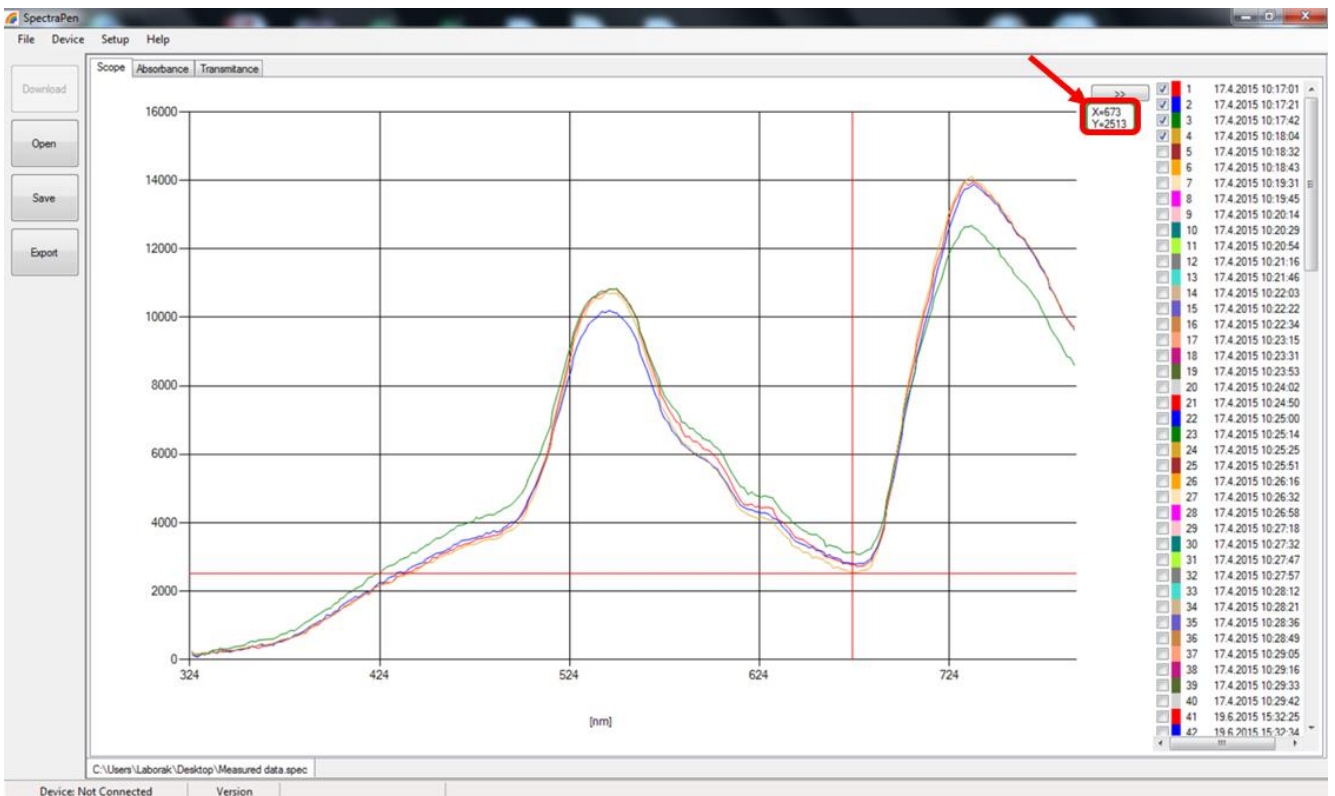

Fig. 26 Marker feature.
- In the graph **marker** feature is available, which enables display of the numeric values for wavelength for the selected wavelength of the scan (Fig. 26). Use the mouse to select the given point. In top right corner of the graph (green rectangle) is displayed exact value for the selected point on the x-axis and y-axis.